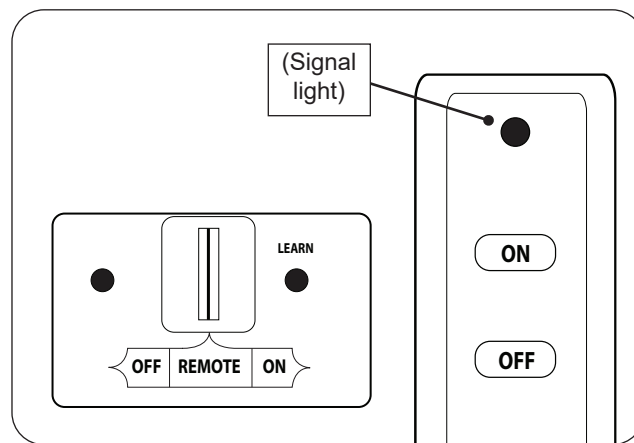

Fig. 28-1 Remote lighting
2. Locate the ON/OFF switch at the front of the switch box and/or the 3-position switch on the remote receiver, and press/slide to the **OFF** position(s) (see Fig. 28-1).
3. Slide the 3-position switch on the remote receiver to **REMOTE** (see Fig. 28-1).
4. Locate the remote transmitter and press the **ON** button (see Fig. 28-1). The ignition sequence will begin.